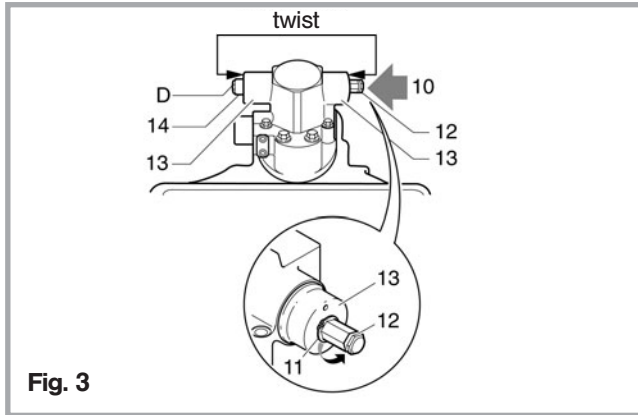

Fig. 3
4. Switching the hand lever over to the left (see fig. 3)